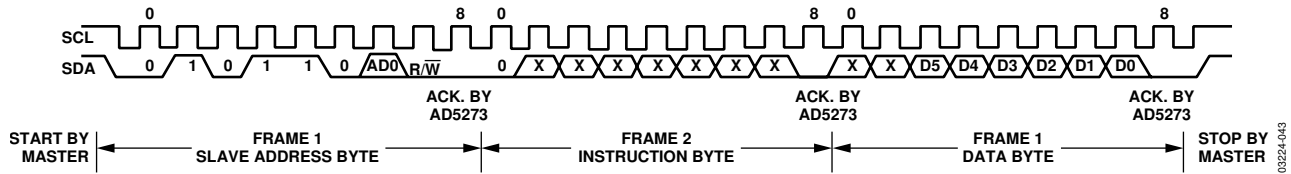
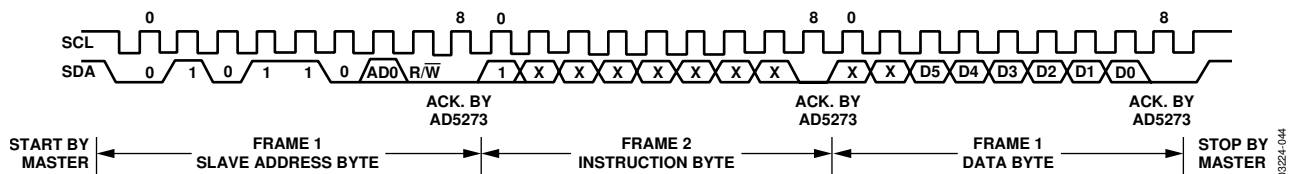
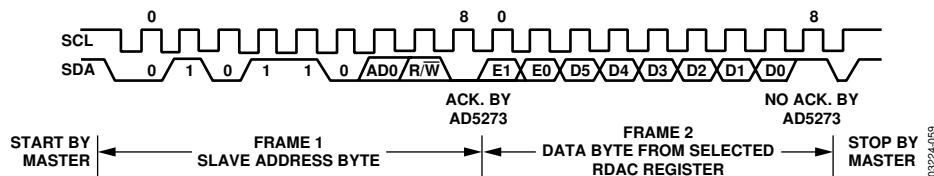
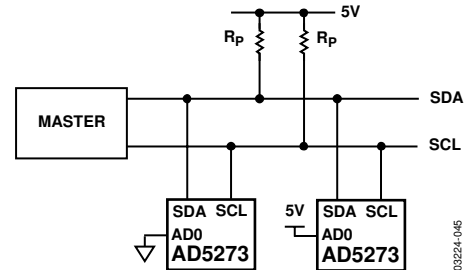

Figure 39. Writing to the RDAC Register
Figure 40. Activating One-Time Programming
Figure 41. Reading Data from the RDAC Register
Figure 42. Two AD5273 Devices on One Bus
For users who do not use the software solution, the AD5273 can be controlled via an I2C-compatible serial bus and is connected to this bus as a slave device. Referring to Figure 39, Figure 40, and Figure 41, the 2-wire I2C serial bus protocol operates as follows:
1. The master initiates data transfer by establishing a start condition. A start condition is defined as a high-to-low transition on the SDA line while SCL is high, as shown in Figure 39. The byte following the start condition is the slave address byte, which consists of six MSBs defined as 010110. The next bit is AD0; it is an I2C device address bit. Depending on the states of the AD0 bits, two AD5273s can be addressed on the same bus, as shown in Figure 42. The last LSB is the R/W bit, which determines whether data is read from or written to the slave device.
2. A write operation contains one more instruction byte than the read operation. The instruction byte in the write mode follows the slave address byte. The MSB of the instruction byte labeled T is the OTP bit. After acknowledging the instruction byte, the last byte in the write mode is the data byte. Data is transmitted over the serial bus in sequences of nine clock pulses (eight data bits followed by an acknowledge bit). The transitions on the SDA line must occur during the low period of SCL and remain stable during the high period of SCL, as shown in Figure 39.
3. In read mode, the data byte follows immediately after the acknowledgment of the slave address byte. Data is transmitted over the serial bus in sequences of nine clock pulses (slight difference from write mode, there are eight data bits followed by a no acknowledge bit). Similarly, the transitions on the SDA line must occur during the low period of SCL and remain stable during the high period of SCL, as shown in Figure 41.
- When all data bits have been read or written, a stop condition is established by the master. A stop condition is defined as a low-to-high transition on the SDA line while SCL is high. In write mode, the master pulls the SDA line high during the 10th clock pulse to establish a stop condition, as shown in Figure 39 and Figure 40. In read mode, the master issues a no acknowledge for the ninth clock pulse, that is, the SDA line remains high. The master then brings the SDA line low before the 10th clock pulse, which goes high to establish a stop condition, as shown in Figure 41.
Figure 42 shows two AD5273 devices on the same serial bus. Each has a different slave address because the state of each AD0 pin is different. This allows each device to operate independently. The master device output bus line drivers are open-drain pull-down in a fully I2C-compatible interface.